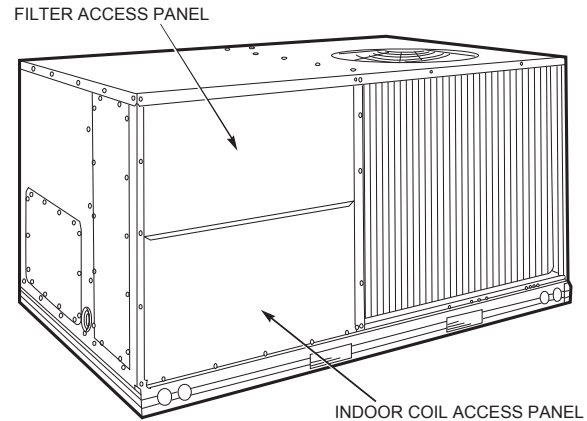

Fig. 9 - Typical Access Panel Locations
2. To gain access to the hood, remove the filter access panel. (See Fig. 9.)